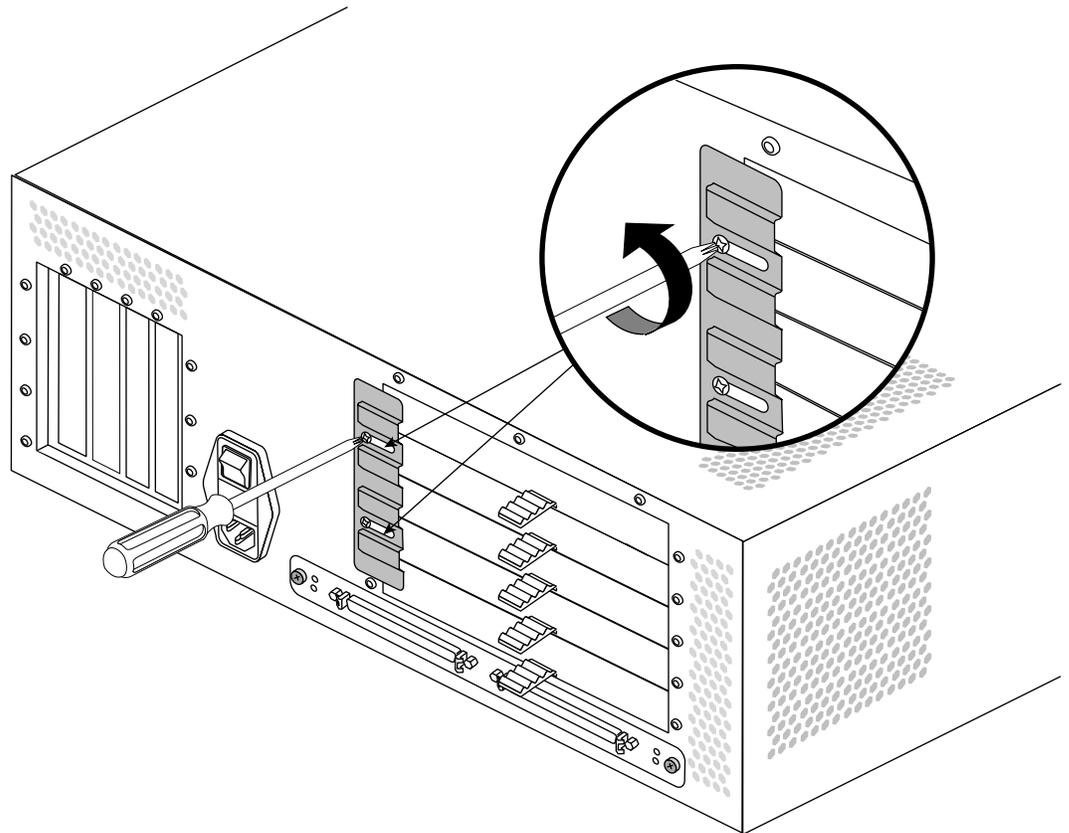

Figure 2-14 Loosening the XIO Board Retaining Plate
- Use a #2 Phillips screwdriver to loosen the screws at each end of the plate, as shown in Figure 2-14.